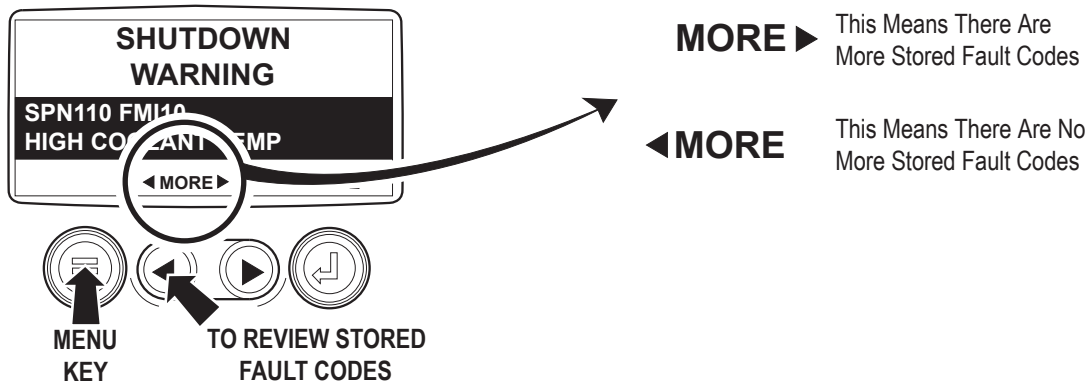

Figure 13 - Stored Fault Codes
4. Once the stored fault codes have been retrieved, the initial code will be displayed along with a text description. See Figure 13.